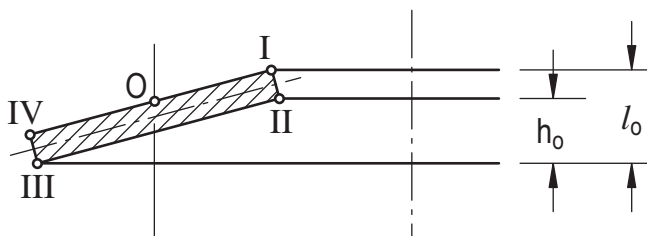

Figure 2
Static loading is defined as carrying a constant load or a load that changes at relatively long time intervals - not exceeding 10,000 cycles for the life of the design. In static applications, the highest calculated stress at mid-span of the top surface of the Disc Spring is critical. (Shown as Point 0 in *Figure 2*.) At this point, the highest calculated stress should not exceed the approximate tensile strength of the material (1400-1600 N/mm²) when the Disc Spring is in the flat position. Standard Disc Springs may be used in static loading without performing theoretical calculation if deflection is kept to less than 75% total.
Residual manufacturing tensile stress occurs at the upper inside diameter edge of the Disc, shown as Point 1 in *Figure 2*:
1. In unloaded Disc Springs, residual tensile stress from manufacture occurs at Point I shown in *Figure 2*. Pre-loading the Disc changes the tensile stress at Point I to a compressive stress. Keeping the top of the Disc under compressive stress reduces risk of crack propagation. Variation from tensile to compressive stress severely limits the fatigue resistance of the Disc Spring. The Disc Spring must be pre-loaded to a minimum of 15% of total deflection to eliminate tensile stress.